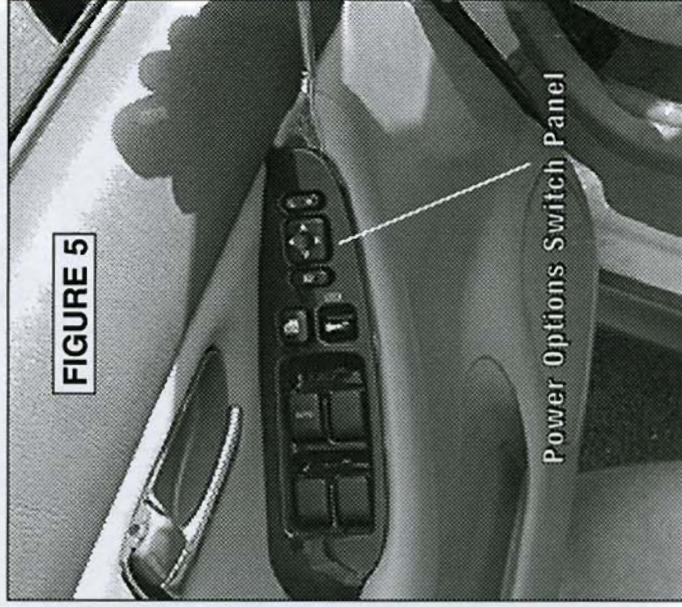

FIGURE 5
4. Pry from top edge of power options switch panel to release one (1) metal clip. Pry out bottom edge to release one (1) other clip. Pull off panel, disconnect wiring harnesses and remove panel. Remove one (1) phillips screw exposed by removal of switch panel (Figure 5).